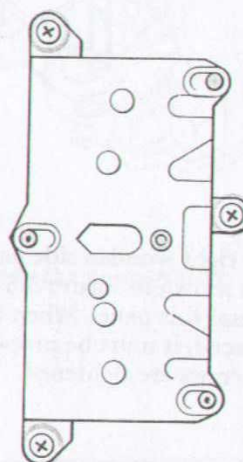

Fig. 3.9 Flywheel mounting plate
- Remove the three screws shown in Figure 3.9. When you lift out the flywheel mounting plate make sure that the three ball bearings and the cylindrical bearing do not fall out, see Figure 3.9.